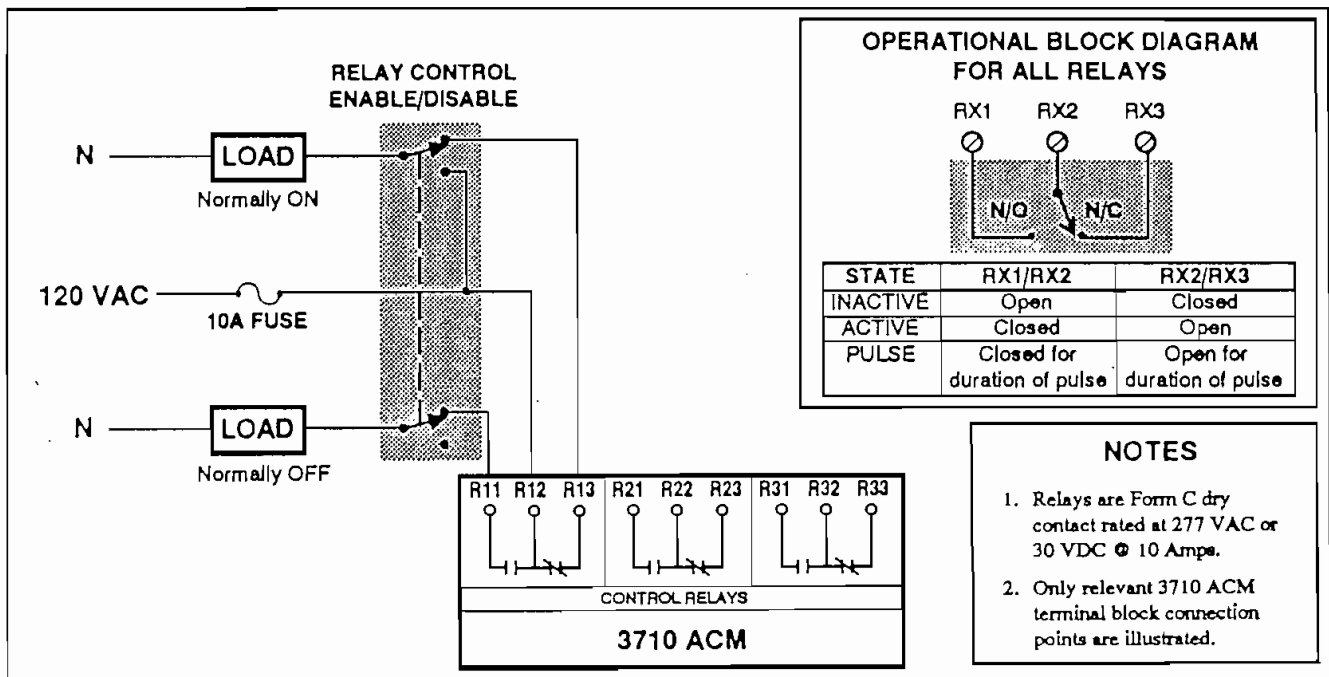

Figure 2.15.1 Control Relay Connections
Figure 2.15.1 illustrates the wiring connection requirements for the control relays. Section 3.8 describes the operation of the relays.
- 1) Connection to the external equipment should be made via an intermediate mechanism which allows relay control to be completely disabled for commissioning and servicing (see Figure 2.15.1).